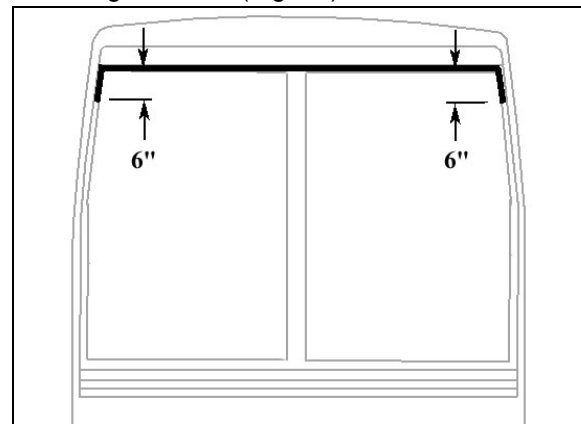

FIGURE 50: APPLICATION OF SIKA 221 BLACK
- At the top of windshield, clean surface between fiberglass and rubber extrusion using Sika 205 (Fig. 50).